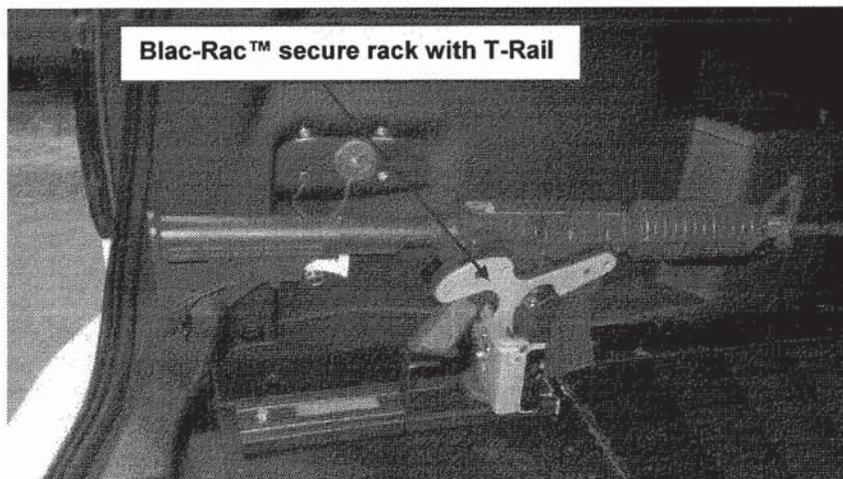

Figure 31 - D&R Electronics® - Electronics Sub Panel Mount with PCVSS installation
- (1).** Installation of this secure rack-type PCVSS requires the Blac-Rac™ Model 1070 Tactical Weapons Rack with External 3/8 inch Hasp and Blac-Rac™ T-Rail System;
- (2). In this configuration the rack ***shall*** be secured with a CF/DND-standard Abloy F283 (Model PL330) high security padlock;
- (3). The rack ***shall*** be installed on the T-Rail System which will be installed on the equipment tray in such a manner that the carbine is held horizontally; and
- (4). The T-Rail system ***shall*** be cut to ensure it allows the D&R Electronics® - 933-0092A cabinet subframe with electronics sub panel mount to open.
- b. Blac-Rac™ Model 1070 with Integral Lock:** This secure rack-type PCVSS is currently one of the three models approved for Police Interceptor Utility marked MP vehicle and is illustrated at *Figure 31* below:
- (1). Installation of this secure rack-type PCVSS requires the Blac-Rac™ Model 1070 Tactical Weapons Rack with Integral Lock and Blac-Rac™ T-Rail System;
- (2). In this configuration the rack is supplied with an integral high security double-sided (Pagoda style) cam lock. The rack is normally delivered with two identical keys (Note: This is a proprietary lockset so extra keys cannot be made or copied locally. Key copying and re-keying can only be done by the manufacturer;
- (4). The T-Rail System shall be cut to ensure it allows the D&R Electronics® - 933-0092A cabinet subframe with electronics sub panel mount to open.